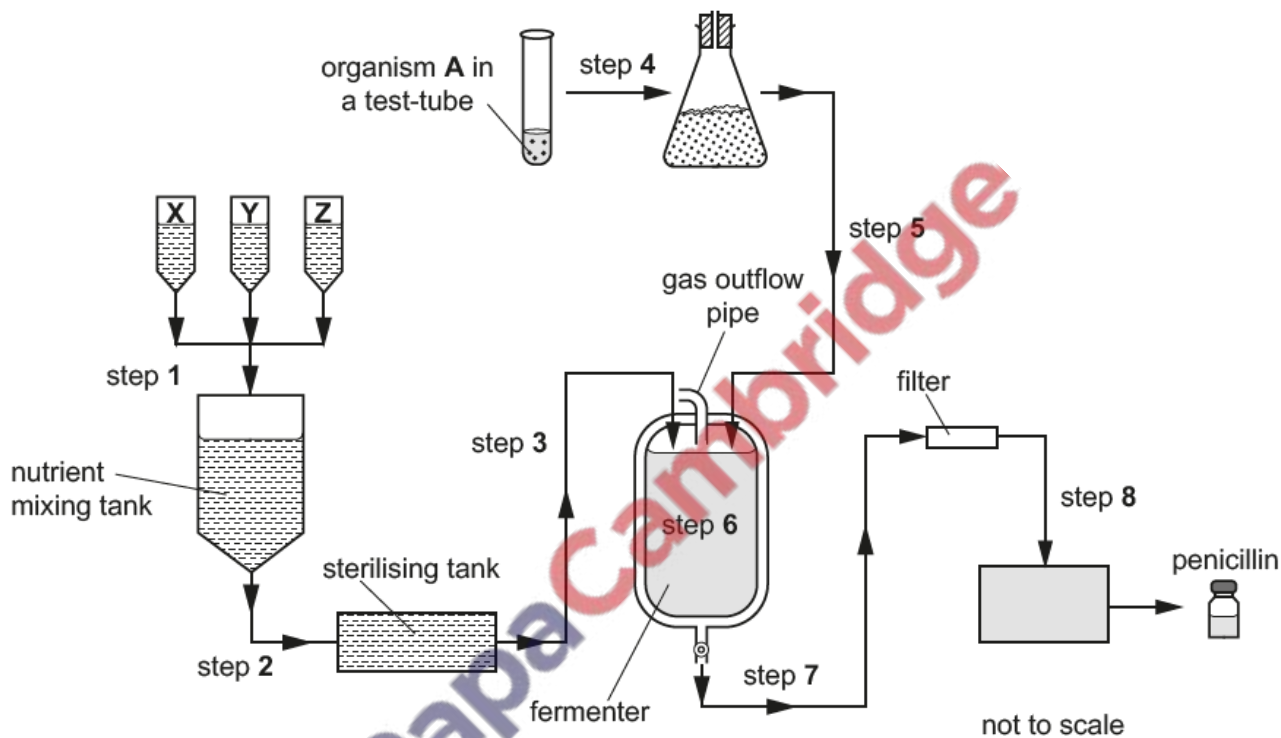

Fig. 1.1
(b) Fig. 1.1 is a flow diagram of some of the steps in the production of penicillin.
(ii) State the genus name of organism A in Fig. 1.1.
- (iii) Penicillin is produced in the fermenter shown in Fig. 1.1. A variety of nutrients, X, Y and Z, are mixed together and added to the fermenter in step 1.
- (vi) Using the information in Fig. 1.1, outline the events occurring from step 4 to step 8 during the production of penicillin.